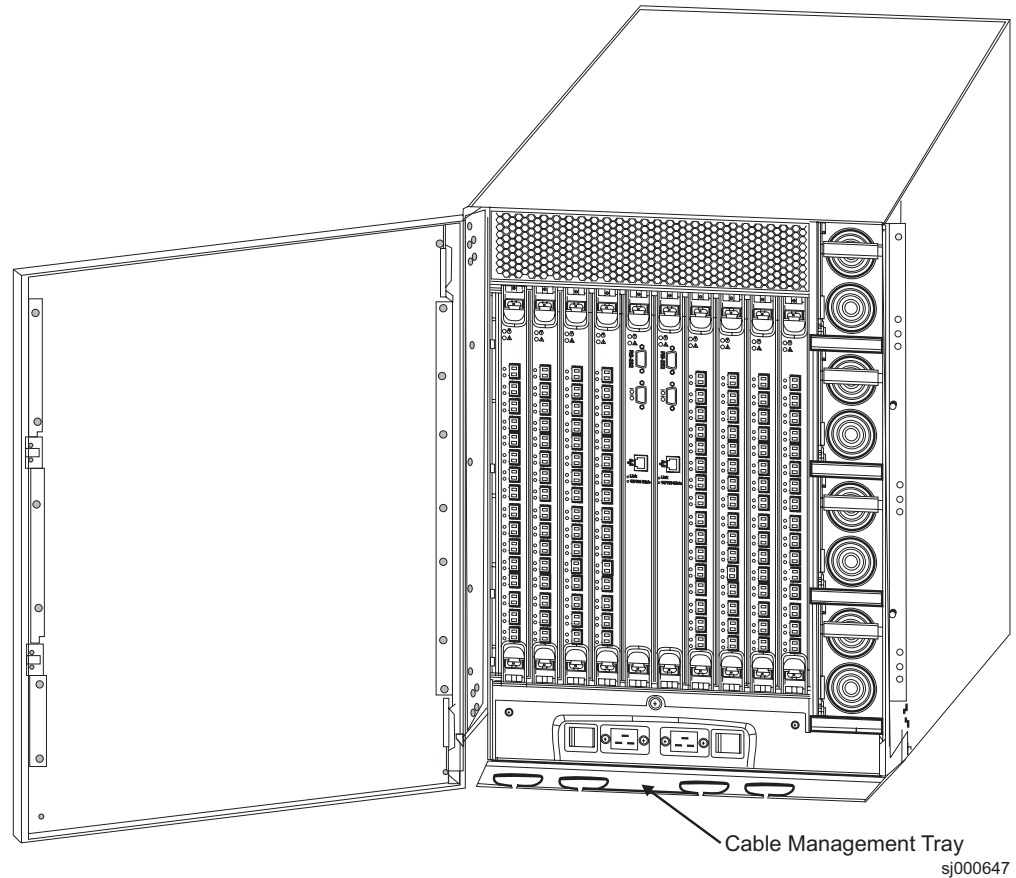

Figure 43. 2109 Model M12 with the cable management tray
1. Orient the tray. See Figure 43 on page 81.